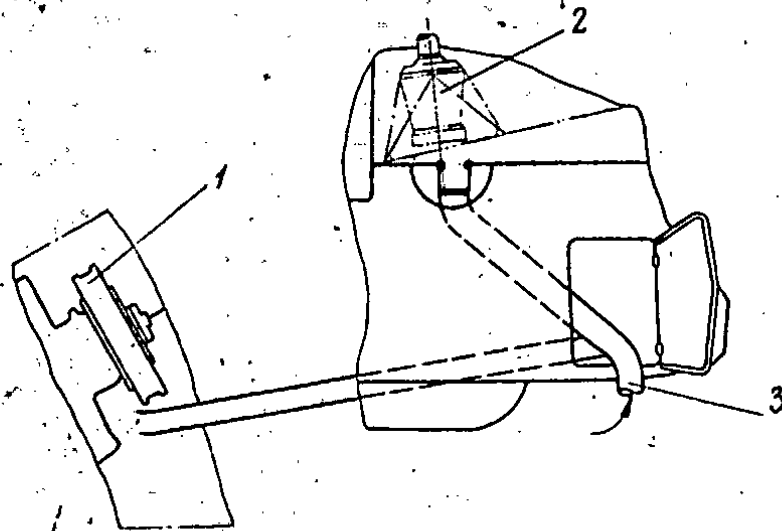

Fig. 11. P-5 gearbox and clutch heating diagram.
6. As soon as the cylinder head temperatures have reached those indicated in paragraph 4, replace the sleeve from the cowl bottom access door to the main gearbox. (Fig. 11).